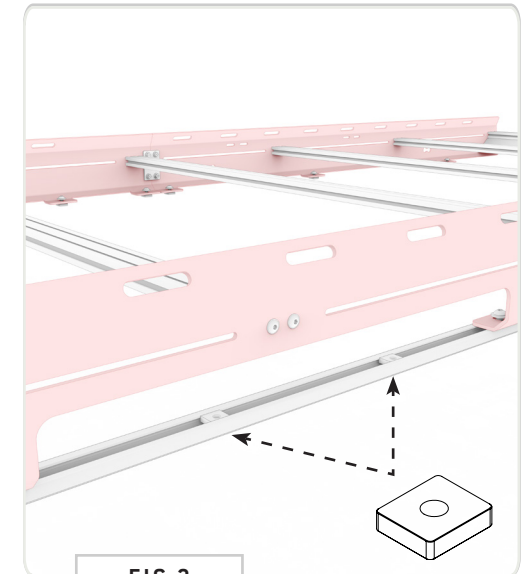

FIG 2
**PRO-TIP:** *If you're installing a side ladder, put two (2) extra rail nuts in on the driver side (FIG 2).*